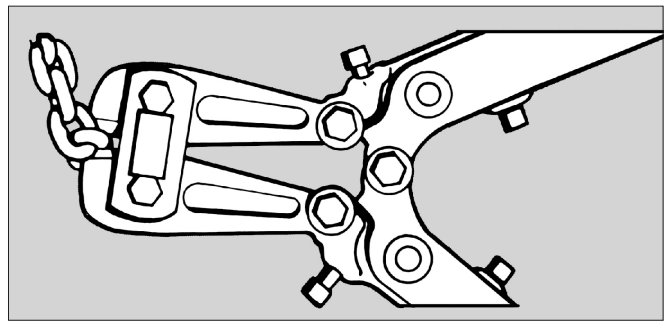

Figure 22. - Cutting Chain with a Bolt Cutter
3. Chain may also be cut using a blot cutter (Fig. 22) similar to the H.K. Porter No. 0590MTC with special cutter jaws for cutting hardened chain (1 inch., 25.4mm) long cutting edge).